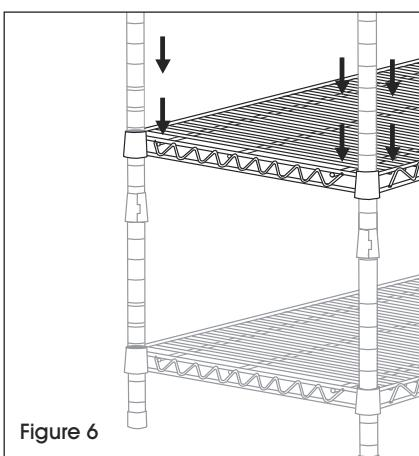

Figure 6
4. Determine the height of the next shelf, snap on shelf supports, then add and secure shelf. Repeat Step 4 to add the remaining shelves. (See Figure 6)